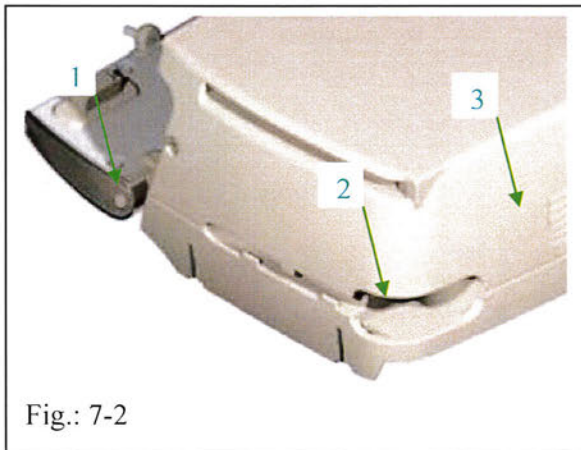

Fig.: 7-2
- 1.3.5. Blind plug front door installed (See figure 7-2).
- 1.3.7. Mechanical pressure adjustment cap installed (See figure 7-2).